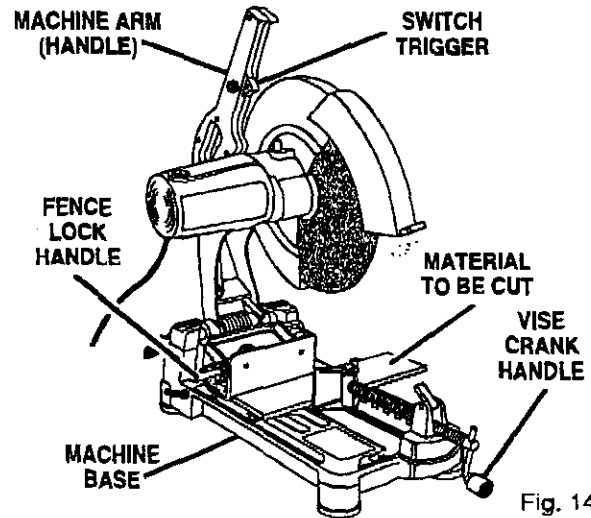

Fig. 14
See Figures 14 and 15.
- Using the fence lock handle, loosen the adjustable flip fence assembly. See Figures 14 and 15.